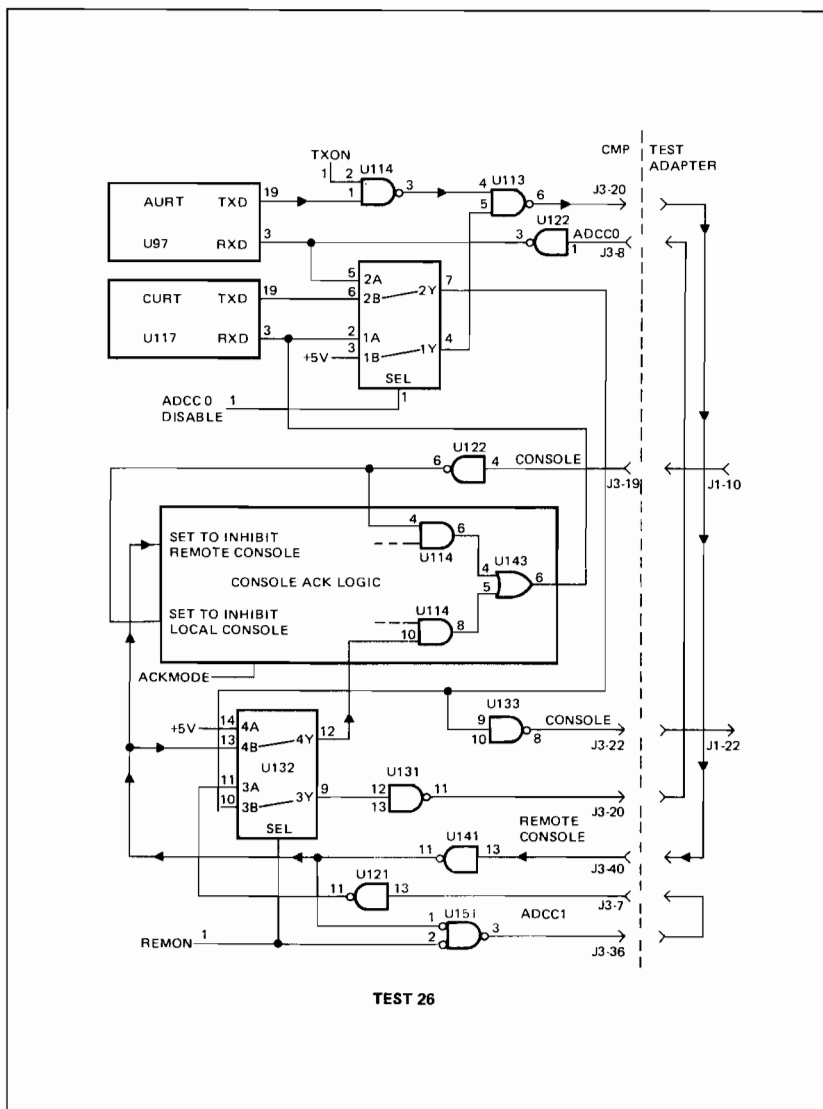

Figure 3-15. Data Comm Test Step 26
- 26 Data from the Remote Console sets the ACK circuitry to allow data from the Remote Console to be received by CURT in the next step. (See Figure 3-15.)